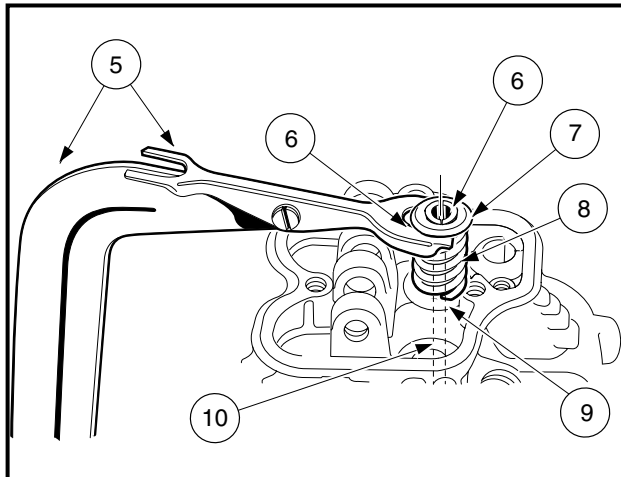
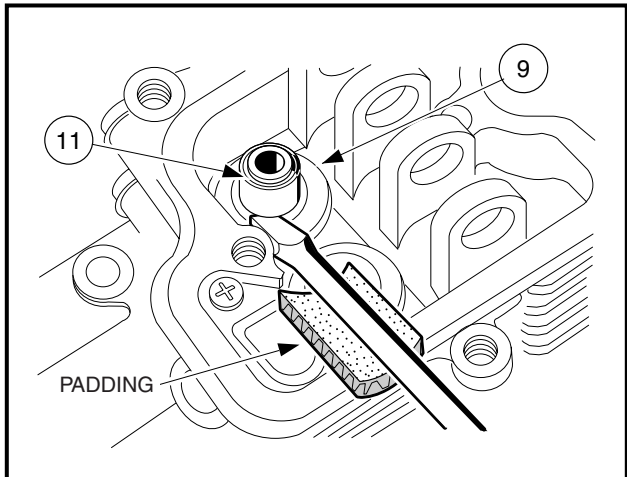

Figure 2-9 Valve Removal
Figure 2-10 Spring Seat Removal
1. Compress the valve spring with the valve spring compressor (5) (CCI P/N 101641101) and remove the collet halves (6) (**Figure 2-9, Page 2-8**).
2. Remove spring compressor and take out the upper retainer (7) and the spring (8).
3. Remove valve (10).
4. Remove valve stem seal (11) with a screwdriver (**Figure 2-10, Page 2-8**). See following **CAUTION**.
- To keep the screwdriver from damaging the cylinder head flange surface, place a piece of heavy cardboard or wood between them (**Figure 2-10, Page 2-8**).
5. Remove spring seat (9) (**Figure 2-10, Page 2-8**).